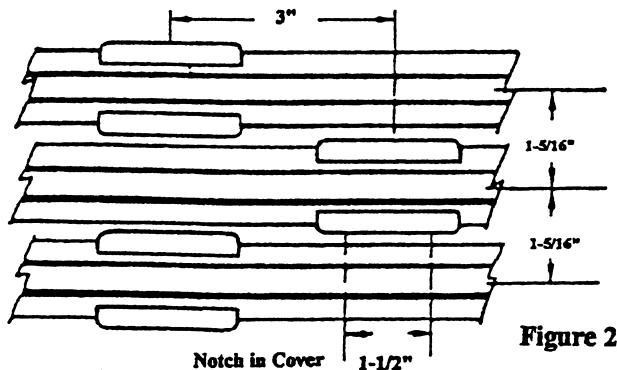

Figure 2
Step 5 - Center Power Feed Installation (Fig 2 & Fig 3)
Alternate the power feed locations as shown in Fig. 2. Notch the conductor insulating cover on top and bottom ($1\frac{1}{4}'' \times 1\frac{1}{2}''$) to expose the conductor as shown in Fig. 3. Assemble the power feed clamp over the exposed conductor. Place the power feed wire into the lug furnished with assembly and tighten the screw. Notch the insulating case halves to provide the feed wire entry and assemble the case over the exposed power feed parts. Secure the insulating case with 2 self-tapping screws furnished.